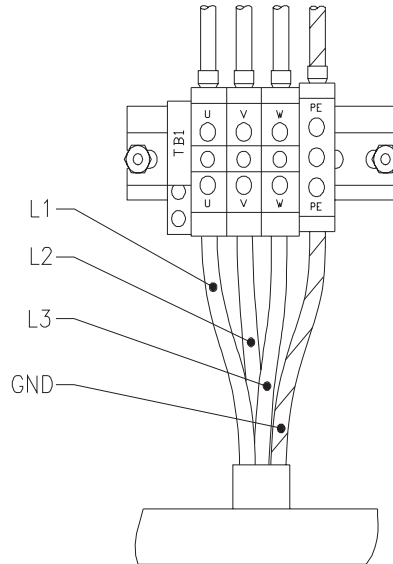

Figure d-3 Power Cable Connections to TB1
4. Connect leads L1 to U, L2 to V, and L3 to W terminals of TB1 (see Figure d-3). Ensure that all connections are tight to avoid excessive heating.
5. Connect the ground lead to terminal marked PE at TB1 (see Figure d-3).